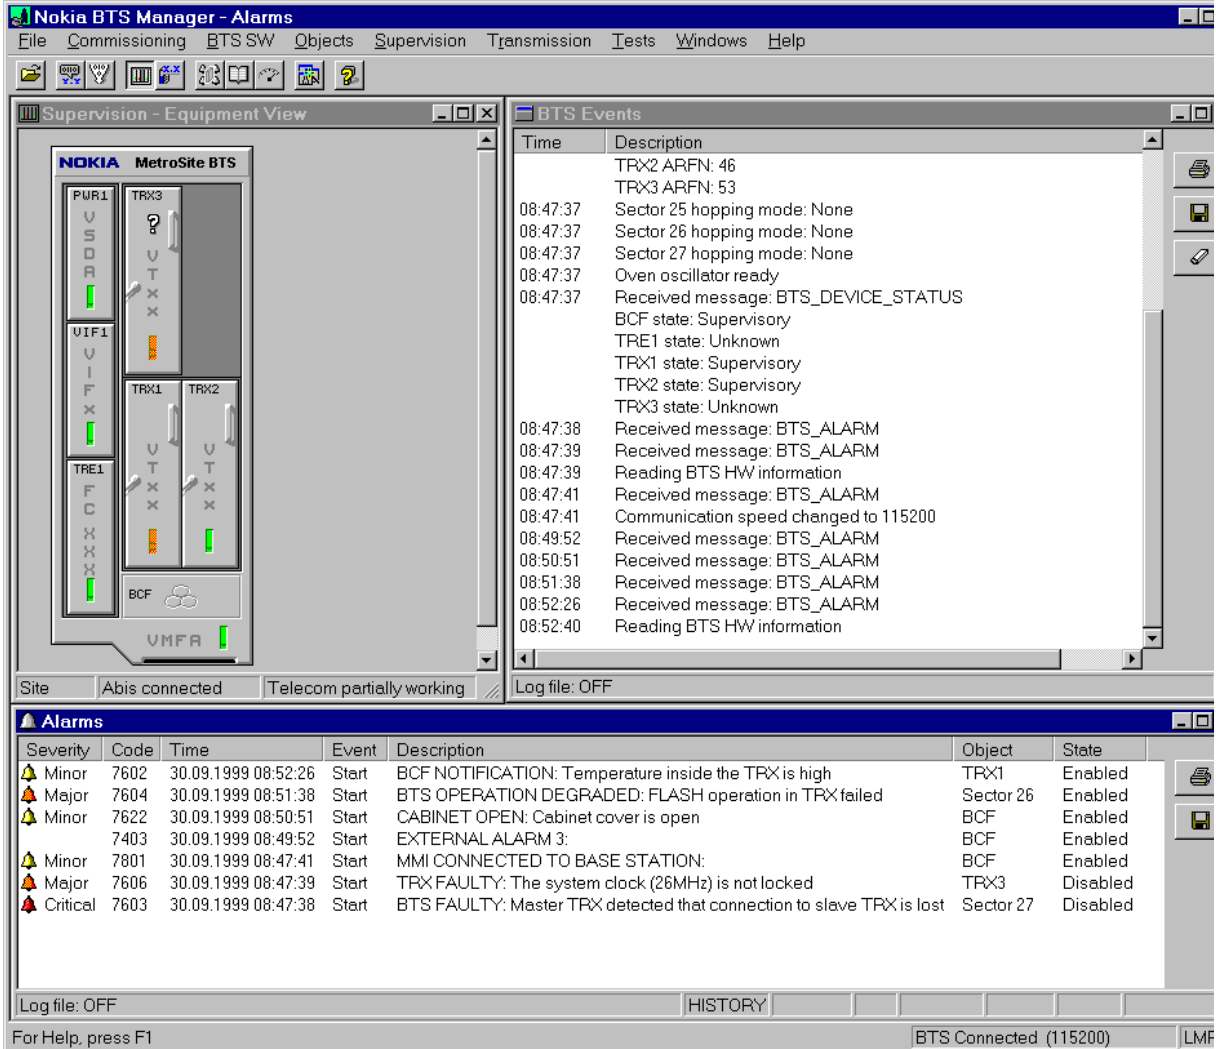

Figure 3. Alarms view on Nokia MetroSite BTS Manager desktop
- Figure 3. Alarms view on Nokia MetroSite BTS Manager desktop 13
Figure 3 shows how alarms (number, name and fault reason) are seen in the *Alarms* view on the desktop of the Nokia MetroSite BTS Manager software.